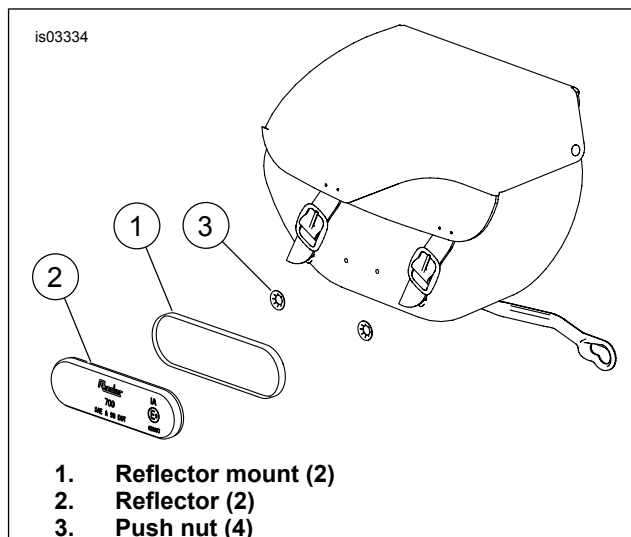

Figure 6. Install Reflectors
1. See Figure 6. Position reflector mount (1) in center of saddlebag.